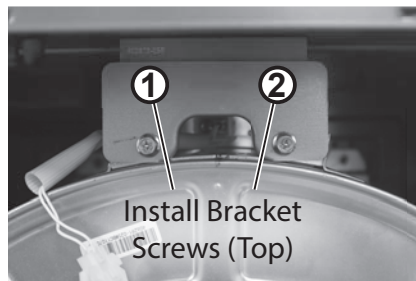

Figure 147 - Heat exchanger install bracket
- 46** Locate the heat exchanger install bracket and top two (2) screws as shown in Figure 147.